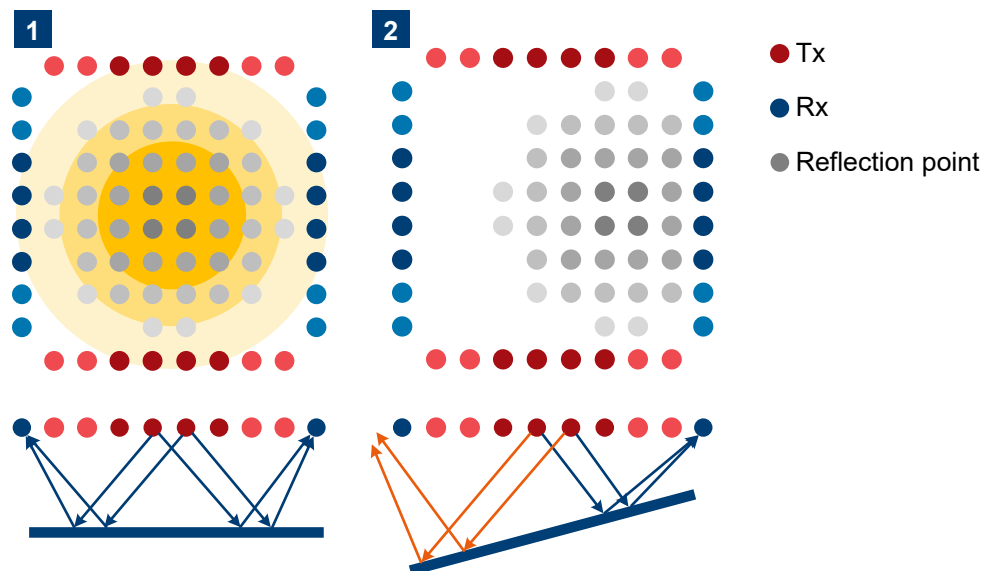

Figure 6-10: Effects of a tilted DUT on the reflection measurement
- If the DUT is parallel to the cluster, the measurement point with the maximum reflection is in the middle of the DUT (dark gray spots in Figure 6-10). Moving to the edges of the DUT, the reflection gets lower (light gray spots). A parallel DUT therefore makes sure that the signal is reflected back to the cluster.
- For a tilted DUT, it is no longer sure that all signals are reflected back to the cluster. You can see this in Figure 6-10: The maximum reflection point moves to the right and some signals are reflected back into open space. The cluster does no longer receive those signals.